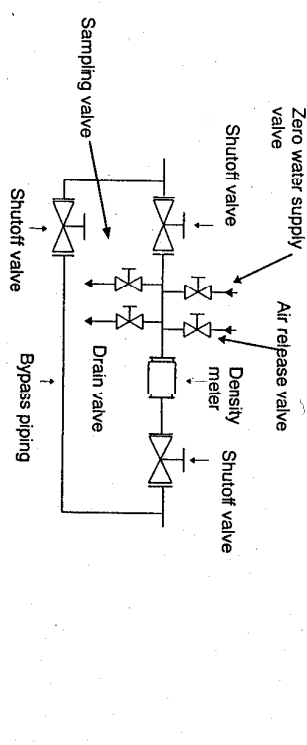
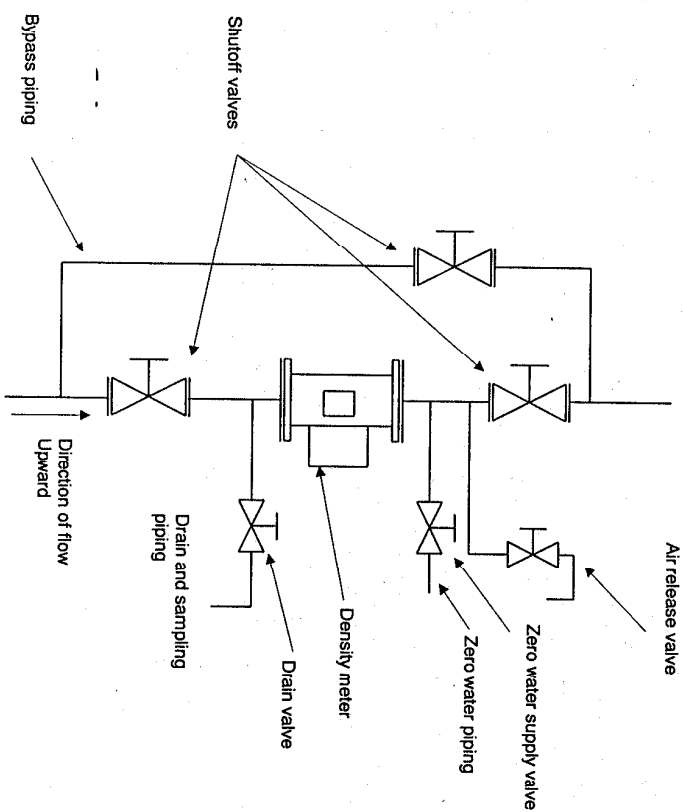

Fig.3.2A. Meter mounted horizontally (Looking from above)
Fig.3.2B. Meter mounted vertically
Piping layout and detector mounting is shown in Fig. 3.2A and Fig.3.2B. Refer to the layout examples as you read following layout guide.
- (1) Basically, install the detector in horizontal piping layout with the signal processing unit on top of the detector. In certain situations, vertical piping and mounting is preferable. Refer to (9).
- (2) Detector has no fixed flow direction, or no upstream or downstream side. Straight tubes are not required in the upstream side and the downstream side. Choose direction or side for easier maintenance.
- (3) When you anticipate opening or gap in connecting to a mating pipe, prepare a loose mechanism joint in advance.
- (4) Install the detector into such a section where fluid fills the detector tube completely, and bubbles will not stay. When fluid does not fill the tube, it causes measuring errors or indicator fluctuations. When a pump is used in the pipeline and it runs intermittently causing a possible unfilled detector tube, use the External Synchronized operation to activate detector to measure only when the pump is in operation.
- (5) Protect detector from getting the vibration from the pump through piping.
- (6) Avoid such a section for installation where solid may build up on the bottom of tube.
- (7) Avoid such a section where bubbles may get into pipes. To avoid bubbles getting into pipes, we recommend installing a detector on the outlet part of a pump rather than the intake side.
- (8) In making zero point adjustment, you need to drain fluid out of a detector and fill it with clean water or zero density water. To enable zero adjustment, arrange followings (Refer to Fig.3.2A, Fig.3.2B, and notes below). Install a shut-off valve on each of the upstream and downstream side of the detector. Between the detector and one of the valves, provide four ports each with a shut-off valve to be used for sampling, feeding zero water, releasing air, and draining. In addition, if you want to keep the flow running even at the time of zero adjustment, provide a bypass pipe with a shut-off valve as in Fig.3.2A and Fig.3.2B.
- (9) In the following situations, we recommend vertical piping arrangement for better result.
- (10) When you install the density meter having a larger diameter than the diameter of the main pipe and you use expanded pipes to mount the meter, adopt vertical piping.